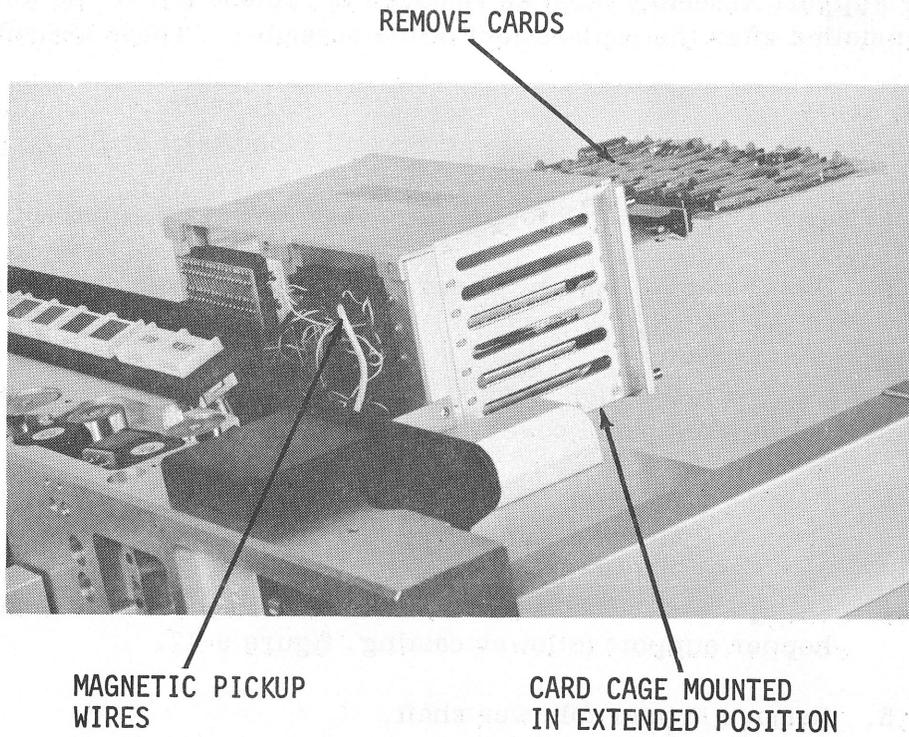

Figure 9-15. Card Cage in Extended Position
- g. Remove all cards from card cage using card extractor levers, figures 9-15.
Tag magnetic pickup wires so that they can be identified with their proper position in the card cage connector, figure 9-15.
- e. Remove all cards from card cage using extractor levers, figure 9-15.
- f. Remove all cards from card cage using extractor levers, figure 9-15.